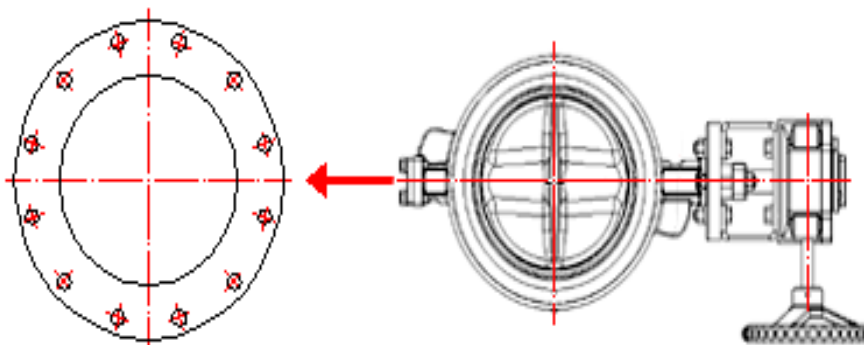

Fig. 4
- Please install the valve stem horizontally (Fig.4), in order to prevent damage to the stem bearing of the valve by sediment that builds up around bottom of the pipe system.